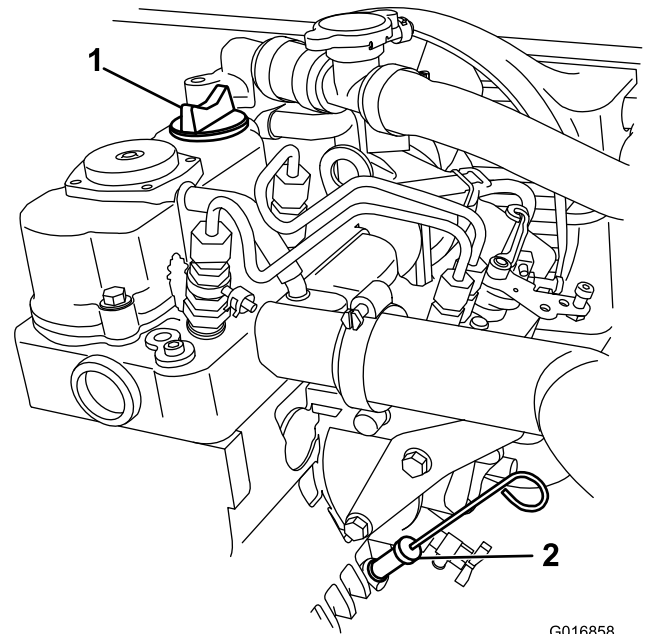

Figure 33
5. Use a rag to clean around the oil dipstick (Figure 33) so that dirt cannot fall into the dipstick tube or oil-filler neck and damage the engine.
7. Slide the dipstick into the dipstick tube and ensure that fully seats (Figure 33).
9. Install the oil dipstick and firmly seat it (Figure 33).